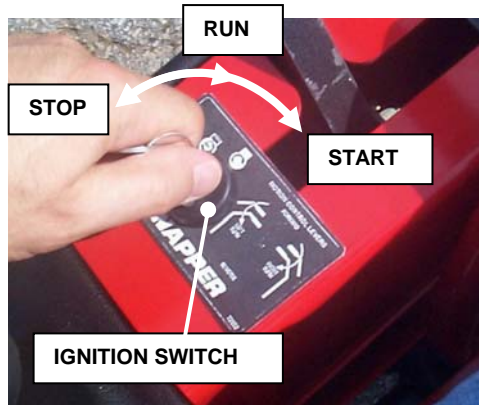

FIGURE 1.2
7. Turn key to "START" position and hold until engine starts. See Figure 1.2. NOTE: If engine does not start after 5 seconds, release key, wait 20 seconds, then attempt starting again. (If engine still fails to start, refer to the troubleshooting section of both mower and engine manuals.)
- 1. Stop engine by turning key to "STOP" position. See Figure 1.2.